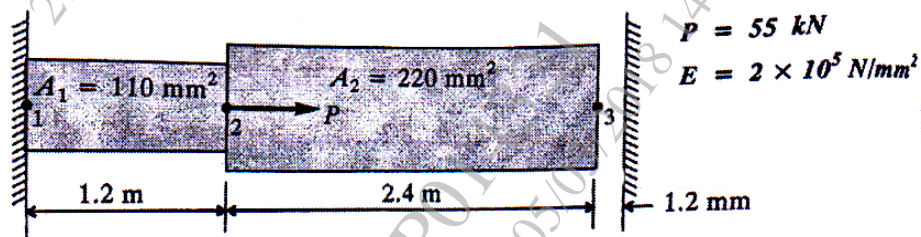

Fig. 3
- Q4)** Determine stresses in stepped bar problem shown in Figure 3 by considering thermal effects. [8]